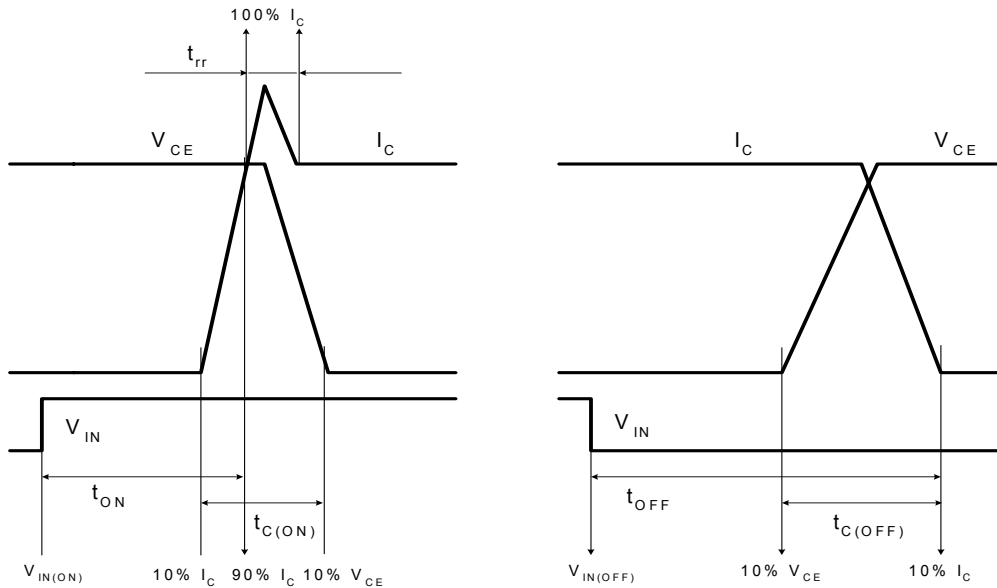

Figure 4. Switching Time Definition
2. t_{ON} and t_{OFF} include the propagation delay time of the internal drive IC. $t_{C(ON)}$ and $t_{C(OFF)}$ are the switching time of IGBT itself under the given gate driving condition internally. For the detailed information, please see Figure 4.